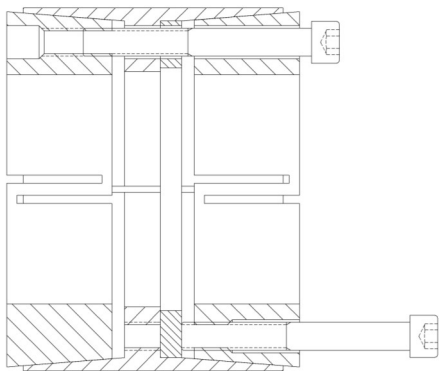

Figure 1
2. To lock out mating tapers and prevent engagement during assembly, transfer at least two locking screws into integrated jacking holes in front collar, and lightly tap the heads of 3 equally spaced screws that are engaged into the rear collar (see Figure 1).